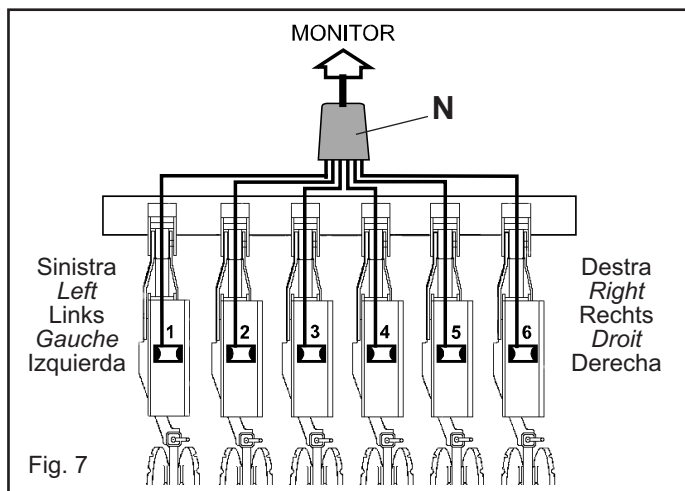

Fig. 7
- distribute the wiring cables and fix them with cable ties to the air pipes of the seed drill, paying attention to the numbers present on the cables near the connectors: cable n° 1 corresponds to row n°1 on the monitor, cable n° 2 corresponds to row n°2 on the monitor, and so on. It is important to consider the first row of the seed drill as "row n°1" (starting from the right or even from the left) and to connect the others in sequence: figure 7 shows an example of a 6 row wiring application taking the first row on the left of the seed drill as reference;
- Fix the junction box (N Fig. 7) at the centre of the seed drill with some clamps held to the machine;
- Connect the signal cable (O) to the junction box (P) placed on the seed drill;
- Connect the speed sensor (Q) and the junction box (R);
- Connect the photocells (S), respecting the row numeration (Figure 7).
- Connect the supply cable (T) of the Computer to the battery of the vehicle; connect the RED wire to the positive pole (+) and the BLACK wire to the negative pole (-).